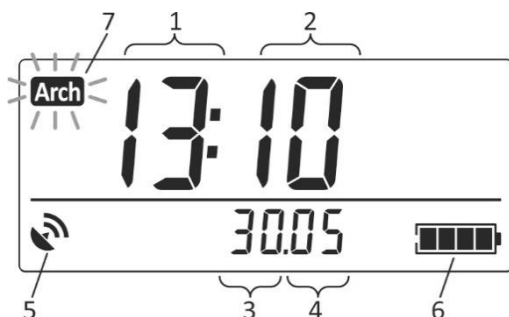

Figure 2.33 – LCD of the dosimeter
2.3.6.9.4.2 The LCD of the dosimeter displays the following information in this mode (Figure 2.33):
- hours (1);
- minutes (2);
- date (3);
- month (4);
- navigation receiver status symbol (5);
- battery status symbol (6);
- sign (7) of critical filling of the dosimeter’s nonvolatile memory, where DE accumulation history is stored (2.3.4 of this OM).